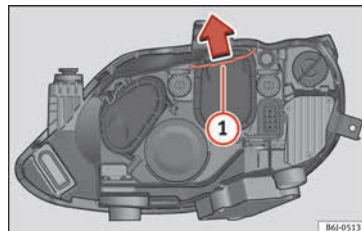

Fig. 99 Double headlight.
- Move the loop » **Fig. 99 1** in the direction of the arrow and remove the cover.